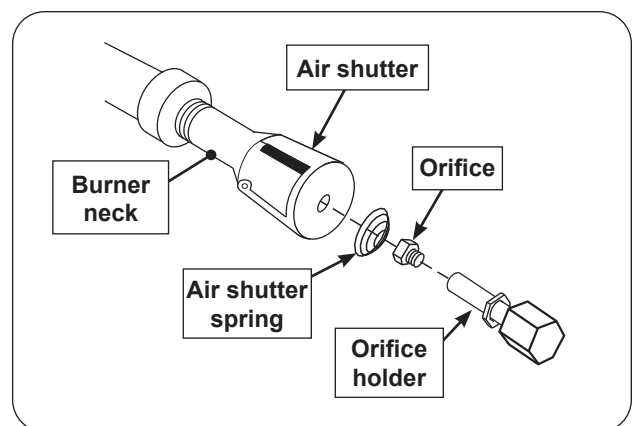

Fig. 37-3 Burner replacement diagram
4. To re-install, position the air shutter spring and air shutter over the orifice holder fitting, between the burner and the heat shield, in the order and position shown in Fig. 37-3. Do for both burner necks.